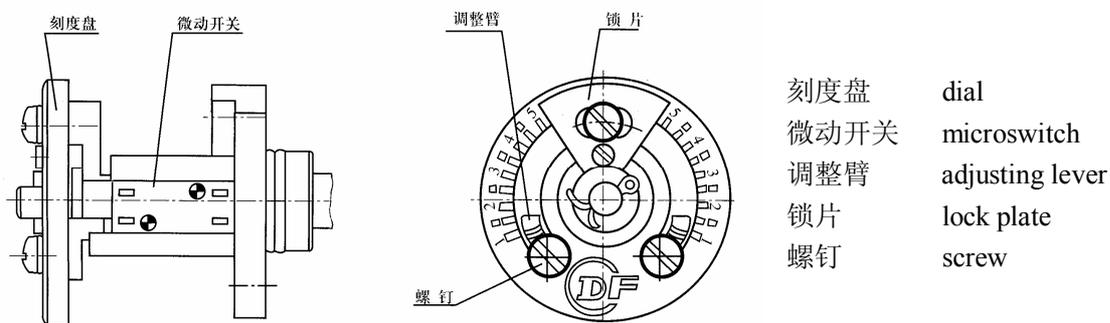

图 11 力矩机构 Fig.11 torque mechanism
1. 力矩控制器的调整 力矩控制器的结构见图 11。力矩控制器在出厂前已根据订货要求整定好并填在产品证明书上(如用户未指定，通常开向整定在公称值上，关向为公称值的 0.7)，一般不允许再调整，若一定要调的话，必须十分谨慎，可参考产品证明书上的力矩曲线，查找对应刻度值，进行调整。方法如下：松开该方向的螺钉，将调整臂调到对应的刻度值，再紧固螺钉即可。决不能盲目调大，否则关严后可能打不开，如果超出力矩机构的控制范围将烧毁电机。
Structure of torque mechanism refer to Fig. 11. Torque mechanism has been preset according to customer's order and the numerical value of torque is filled in the certificate so it need not be reset usually. (If the customer has not specified, the set torque value for opening is generally the nominal value, and that for closing is 0.7 time of the nominal) If rated torque value needs resetting, refer to torque curve in the certificate and check corresponding scale. Adjust as following: Loosen screw, set the handle to corresponding scale and then fix screw. The setting is by no mean able to increase the value random, or the valve will not be able to open after seating, and the motor may be destroyed if the set value oversteps the control range.